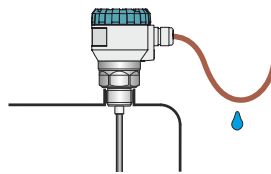

Fig. 9: Preventing moisture from ingress through the cable gland
- It is advisable to run the cable under a cable gland (sagging downwards). This prevents possible **ingress of moisture through the cable gland**. Rain and condensing water can flow freely downwards, see Fig. 9.